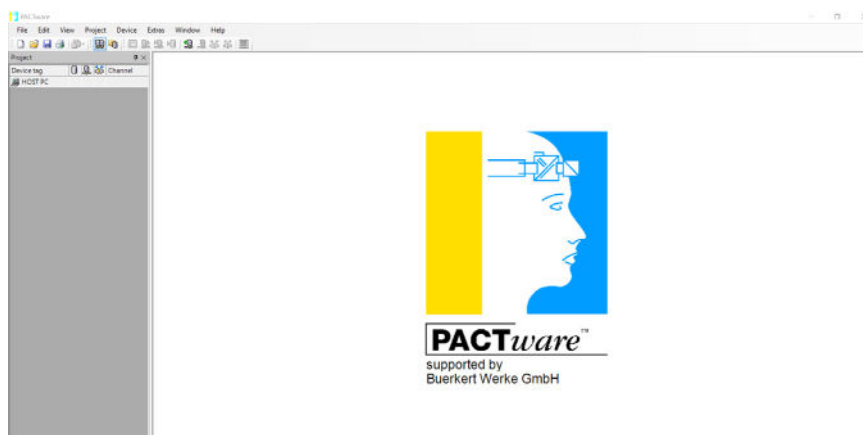

Figure 2: PACTware Home Screen
1. Double click on the PACTware icon the desktop to open the DTM. The main screen will be on display as shown in **Figure 2**.